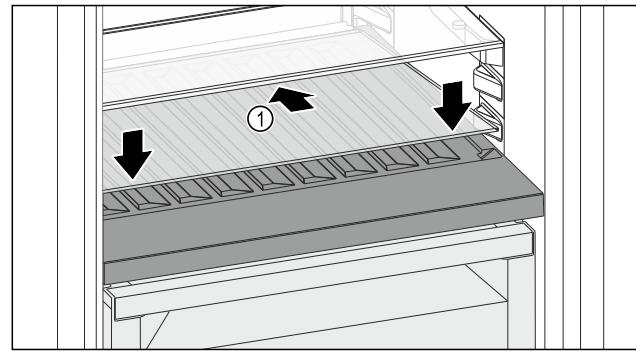

Fig. 82
- ▶ Place the glass shelf Fig. 82 (1) at an angle, sloping it downwards and backwards.
- ▶ Lower the glass shelf Fig. 82 (1) at the front.